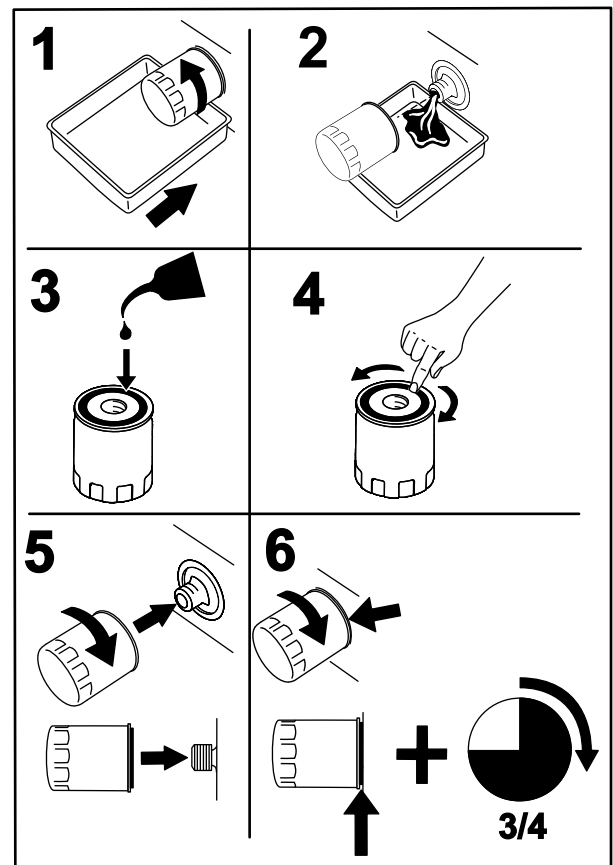

Figure 39
4. Place a drain pan under the oil filter, and turn the filter counterclockwise to remove it (Figure 39).